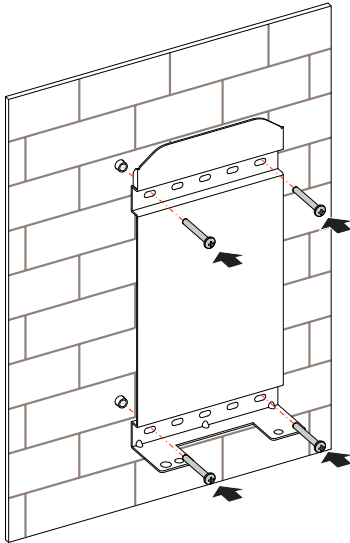

Figure3-10 Fasten the installation holder
- Step 4 Align the holes of installation holder with the expansion plugs and install the self-tapping screws and flat gasket into the expansion plugs (as shown in Figure3-10) and fasten them by screwdriver.